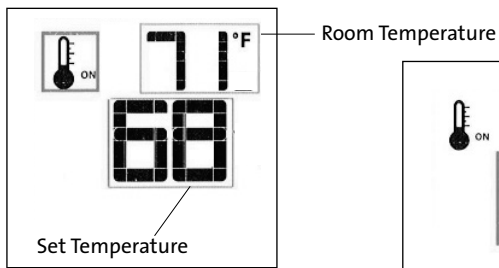

Figure 84. Thermostat ON.
- To activate this function, press the Thermostat Key. The display will indicate that the room thermostat is "ON" and the current Set Temperature is now displayed. Fig. 84.